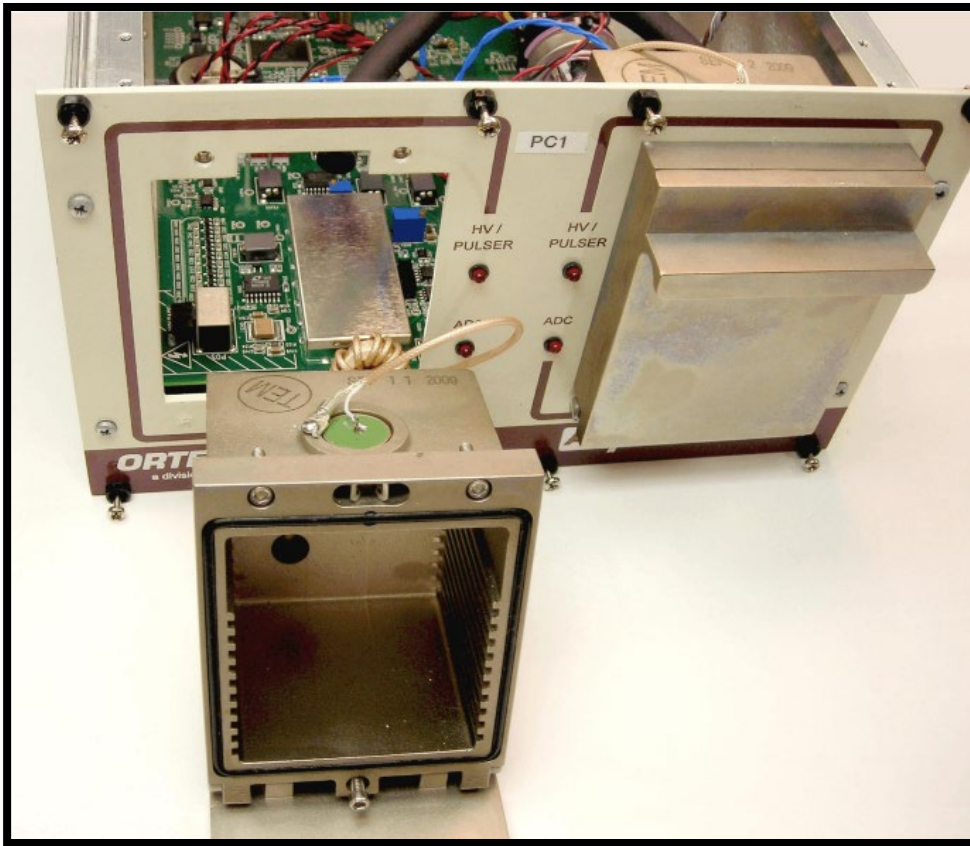

Figure 12. Chamber Removed from Alpha Duo
- 6) Pull the chamber out a little more until the glass feed-through on the top of the chamber is exposed. This is shown for an Alpha Duo chamber in Figure 12.